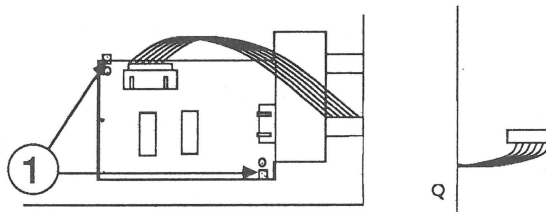

FIGURE 7
6. Note the position of the PCB assembly. Then remove it by gently prying back the two retaining tabs (Figure 7, #1).
1. Position the PCB assembly and snap it under the two retaining tabs (Figure 7, #1).
IPL.15	Power Supply and Main CPU PCB (Figure 7)